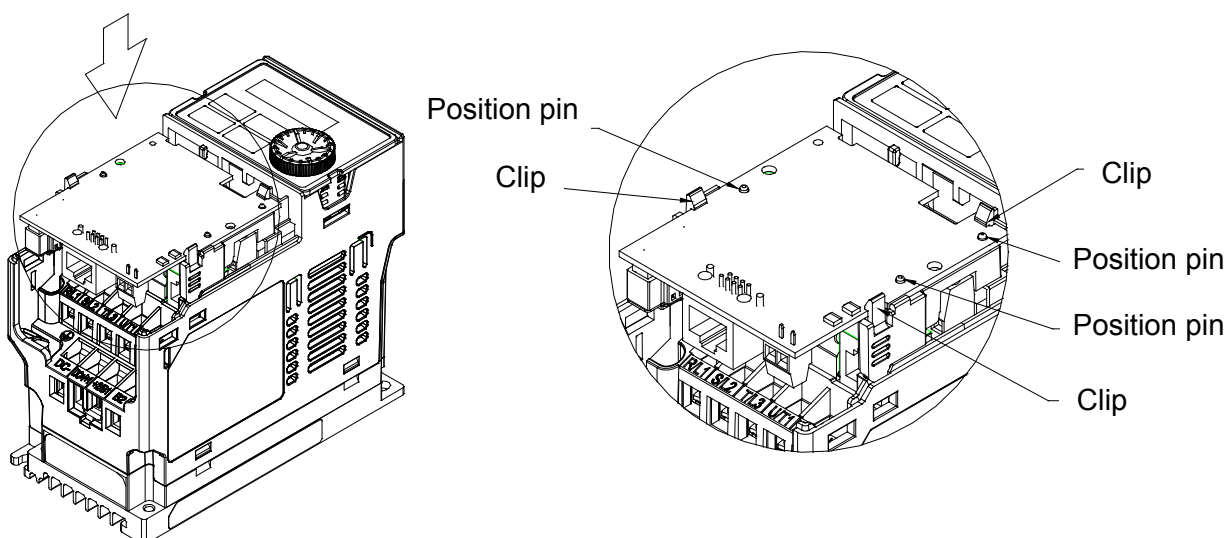

Fig. 4
6. After the wiring is completed, loosen the communication card of the front mounting, and reverse-mounted, aim the three holes at the positioning pin, press the pin to clip the holes with the communication card. (shown in Fig. 4)